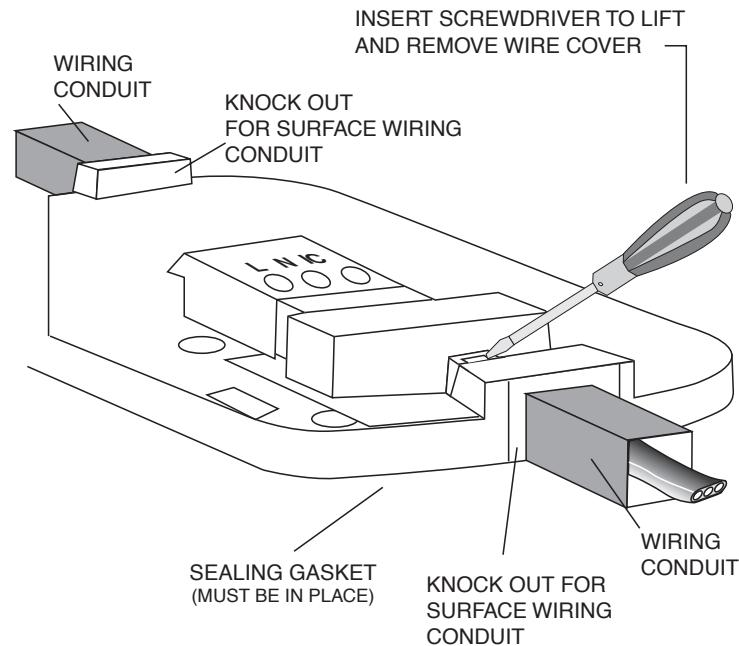

Figure 5 - Surface Wiring
4. Lift off the wiring cover as shown in *Figure 5* overleaf.
- (a) position the mounting plate, so that the cable conduit is as shown in *Figure 5* overleaf.